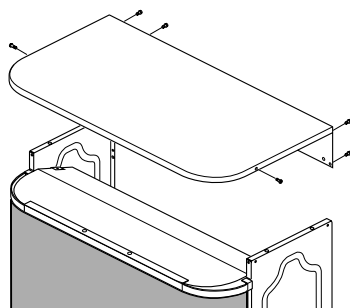

Figure 13 - Removing Stove Top Panel
1. Remove top panel of stove by removing six screws - four from back and one from each side (see Figure 13).